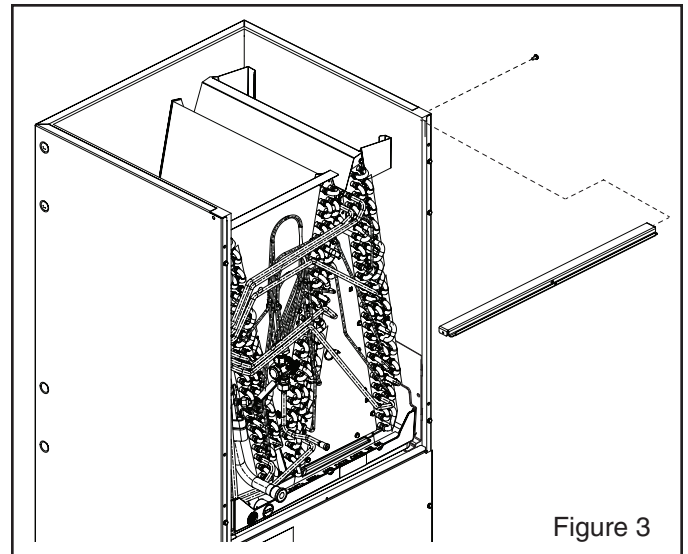

Figure 3
1. For downflow "N" coil replacement, remove lower horizontal cross brace. See Figure 3.